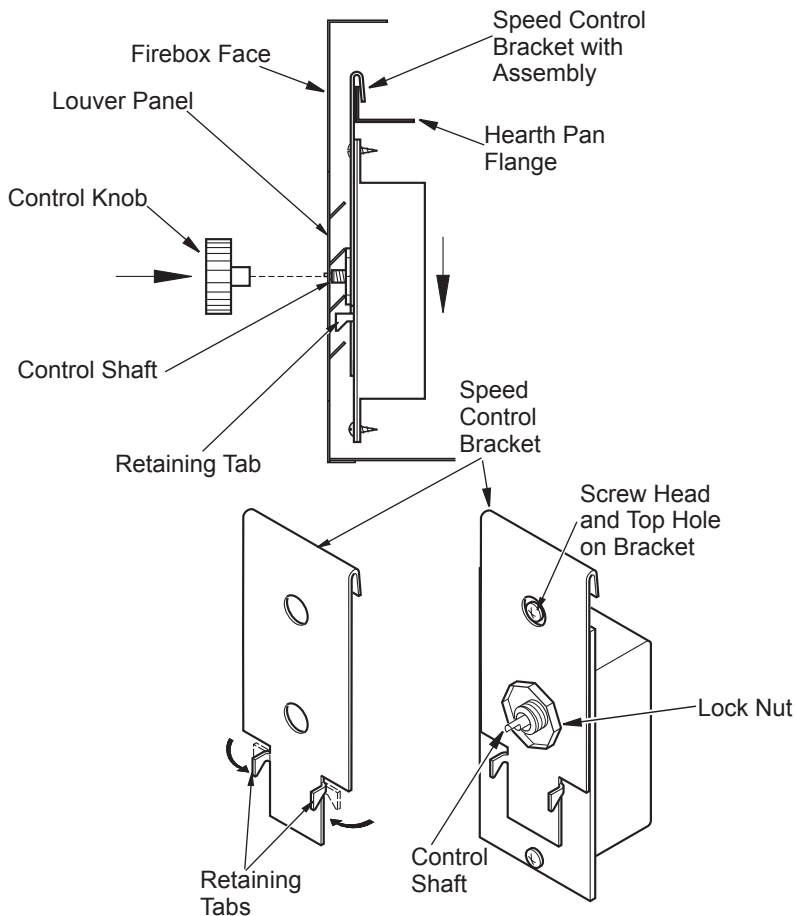

Figure 9: Attaching Speed Control to Firebox with Stamp Faced Louvers (B36 and VB36 Models) Using Speed Control Bracket 109892-01
1. Using pliers, bend two retaining tabs on speed control bracket 90 degrees to front of bracket (see Figure 9, page 7).
2. Mount speed control box by placing plastic control shaft through bottom hole on speed control bracket. Top screw head on control box will fit inside top hole on bracket (see Figure 9, page 7). Secure speed control to bracket with lock nut by pushing and turning lock nut with pliers clockwise until it is tight against bracket.
4. Position speed control assembly over flange on hearth pan by sliding bracket up between the face and flange, then down until the control shaft is aligned with the opening in the louver panel (see Figure 9, page 7).
5. Lock two retaining tabs onto lower louver by pressing down on bracket assembly while sliding control knob through rectangular opening on louver and onto the control shaft (see Figure 9, page 7).